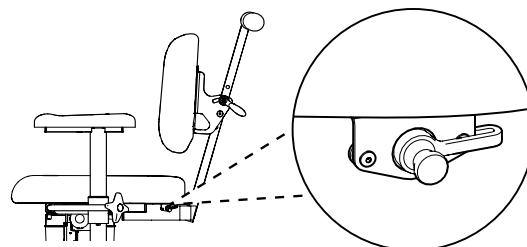

Figure 2.3. Plug connection to the charging outlet under the seat.
1. Inset the plug into the charging outlet (see Figure 2.3). The charging outlet is